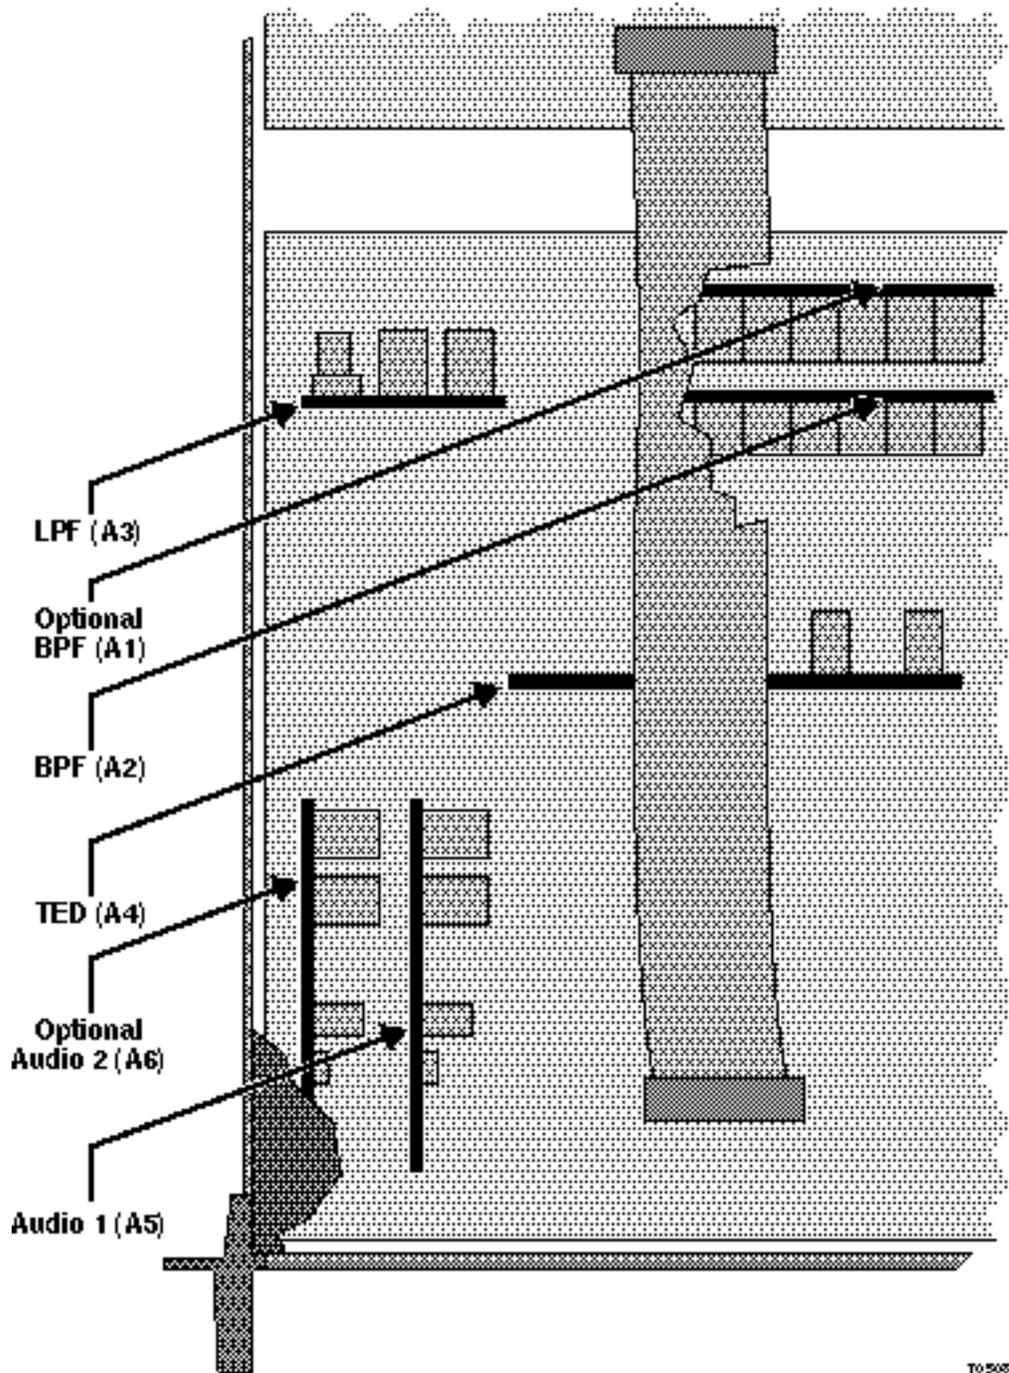

Figure A-1. LPF, BPF, TED, and Optional Audio Card Locations
The Model 9660 Receiver can be upgraded to install a second IF bandpass filter (BPF) and audio 2 card. Refer to figure A-1 and complete the following steps to install either card. Figure A-1 also identifies the lowpass filter (LPF) and Threshold Extension Demodulator (TED) locations.
3. Locate the appropriate slot to install either the optional BPF or the optional audio 2 card (see figure A-1).